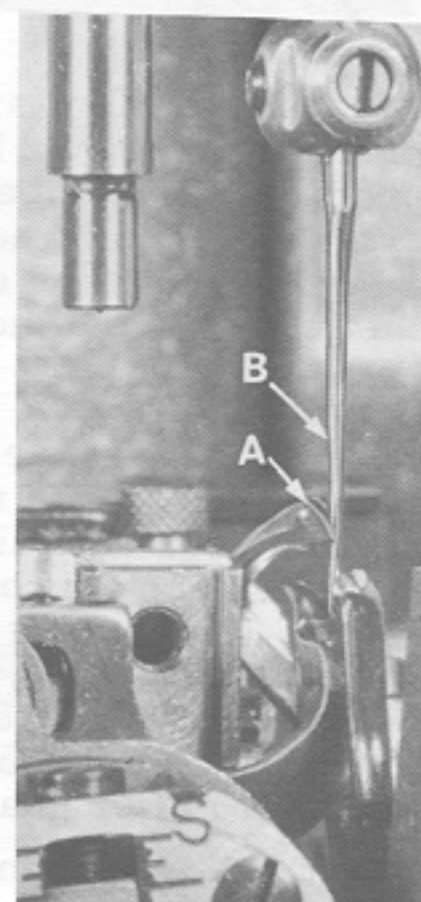

Fig. 7
The looper is set correctly in line-of-feed, if, as it moves to the left, behind the needle, its point (A, Fig. 7) brushes, but does not pick at the rear of the needle (B).
The height of the needle (B, Fig. 7) is correct when the top of its eye is 3/64 inch below the underside of the looper,